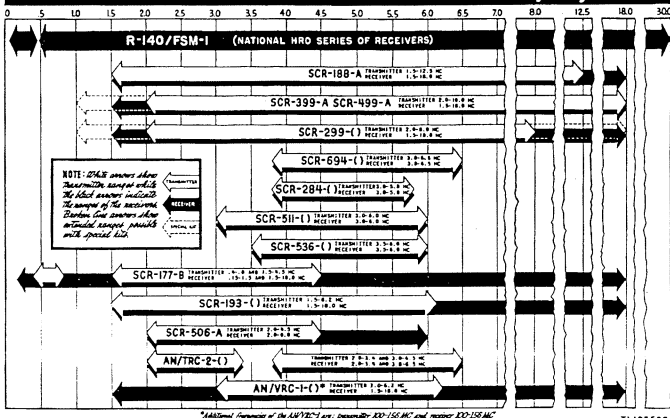

Figure 2. Radio Receiver R-140/FSM-1 (National HRO series of receivers)—frequency spectrum chart.
3. Frequency Spectrum Chart (fig. 2)
and from 480 kc to 30 megacycles (mc). (See fig. 2.)